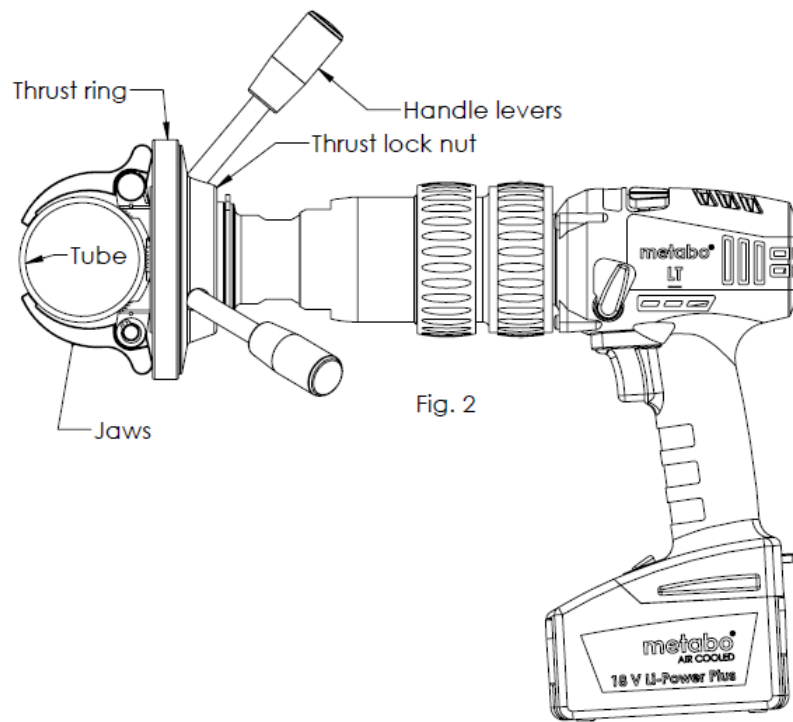

Fig. 2
2. Referring to fig. 2, fasten the snap drill to the tube by tightening the jaws against the tube by rotating the thrust lock nut clockwise against the thrust ring by the help of the handle levers. Use both hands for final tightening.